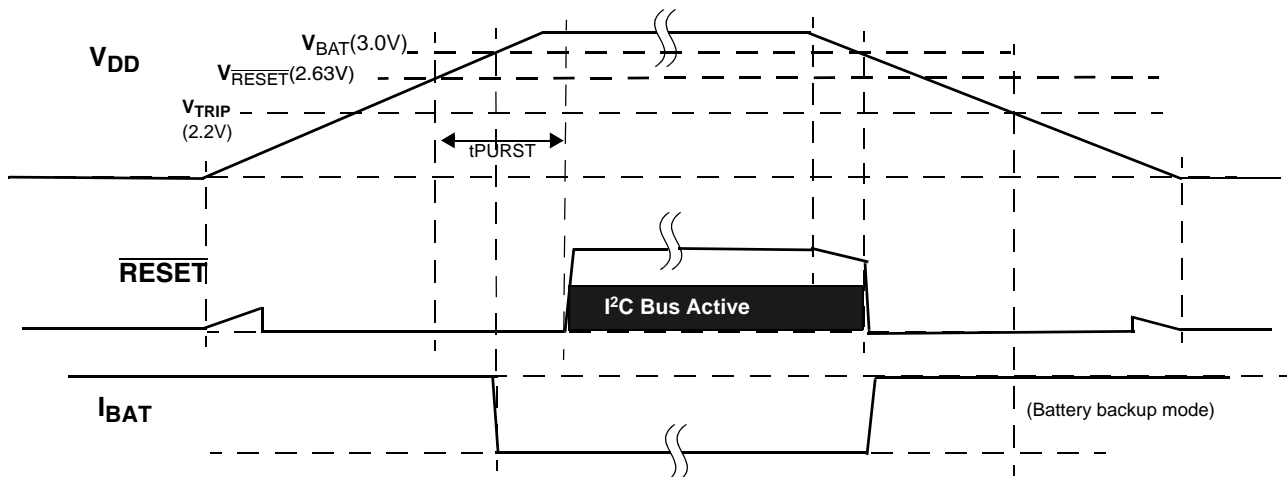

FIGURE 30. RESET OPERATION IN MODE D
- Mode D - In this mode the selection bits indicate switchover to battery backup at  $V_{DD} < V_{BAT}$ , and no I2C communications in battery backup. This mode is unique in that there is I2C communication as long as  $V_{DD}$  is higher than  $V_{RESET}$  or  $V_{BAT}$ , whichever is greater. This mode is the safest for guaranteeing I2C communications only when there is a Valid  $V_{DD}$ . (see Figure 30)